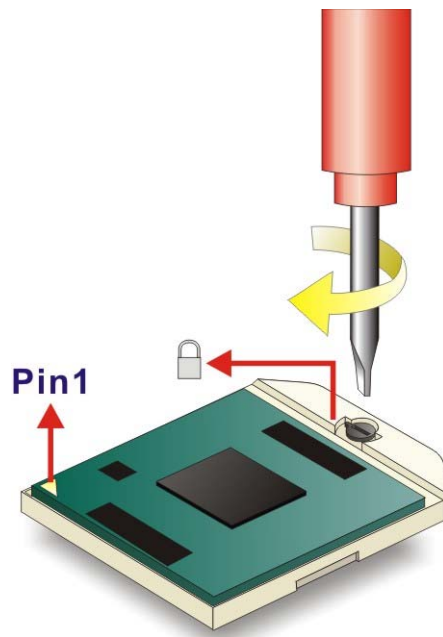

Figure 4-2: Lock the CPU Socket Retention Screw
- Step 7:** Lock the retention screw. Rotate the retention screw into the locked position. See **Figure 4-2**.